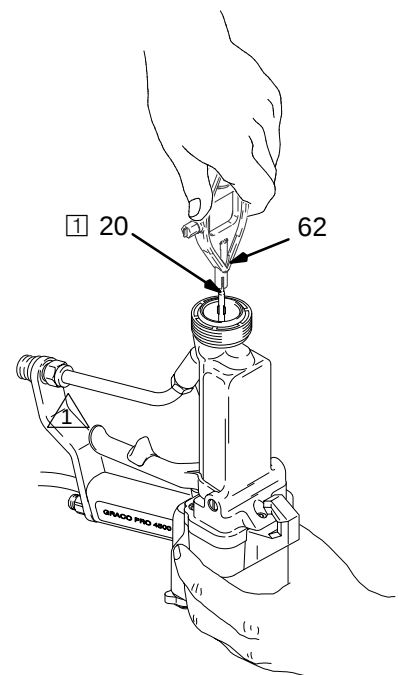

Fig. 13
4. Lightly lubricate the o-ring (25) with petroleum jelly and install it on the resistor stud (22).
5. Using the multi-tool (62), install the resistor stud (22) in the fluid nozzle (21). Tighten to 10 in-lb (1.12 N•m).
NOTE: Make sure the electrode needle (20) is tightened properly, as shown in Fig. 13.
3. Unscrew and remove the electrode needle (20) with the multi-tool (62) provided. Hold the fluid rod end to prevent it from turning. See Fig. 13.
1. Be sure the gaskets (34 & 18a) and spring (30) are in place. See Fig. 13. Replace if damaged.
2. Place the barrel (3) over the power supply (18) and onto the gun handle (7). Make sure the fluid rod spring (30) is seated properly.
3. Tighten the three socket head cap screws (5) oppositely and evenly to 18 in-lbs (2 N•m) maximum (about a half turn past snug) with the wrench (63) supplied.